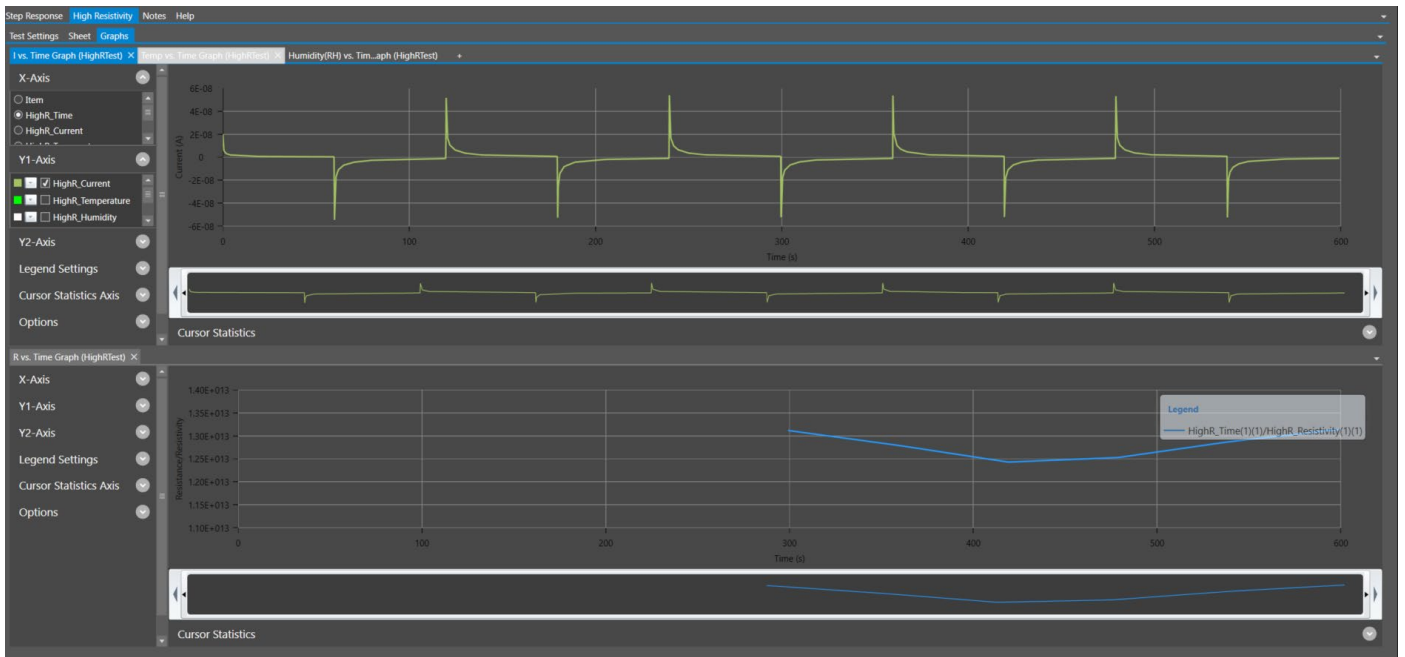

Figure 7. KickStart High Resistivity Test.
- Use the alternating polarity technique to eliminate inherent background currents for the most accurate resistivity measurements. See **Figure 7**.